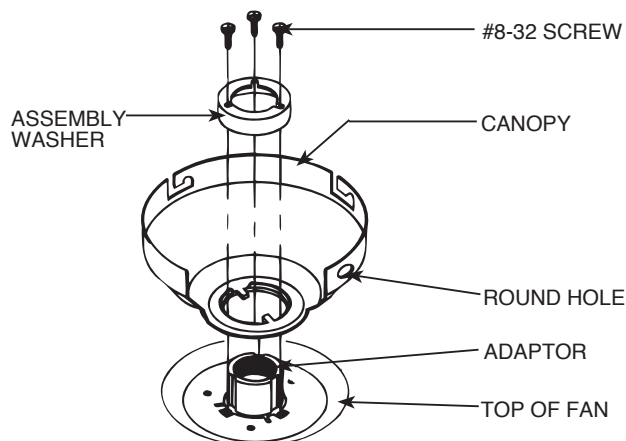

Figure 5. Low Profile Version
A. Place the canopy on top of the fan so the hole in the bottom of the canopy fits over the adaptor on the top of the fan. See Figure 5. Place the canopy assembly washer inside the canopy with the vertical flange of the washer resting on the inside of the canopy.
B. Position the (3) slots in the canopy assembly washer over the (3) threaded holes in the adaptor. See Figure 5.
C. Secure the canopy to the top of the fan using the (3) #8-32 x 7/8 long screws with lock washers. Make certain all screws are tight. Failure to do so could result in the fan falling.
D. Being careful not to scratch the canopy finish, hang the fan from the hook in the ceiling plate using the round hole in the top of the canopy. See Figures 5 and 5A.